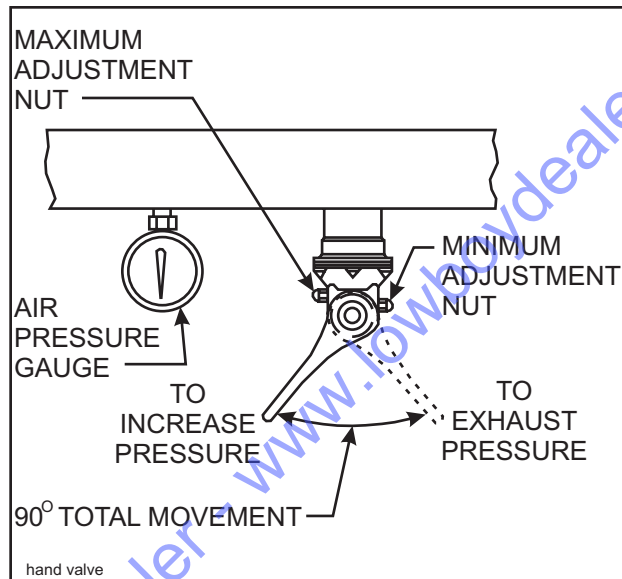

Figure 3-5 Hand Valve
The **HAND VALVE** (See **Figure 3-5**) is located on the front side of rear tail channel beside the **AIR HEIGHT CONTROL VALVE**. It has two positions:
The **PRESSURE GAUGE** (See **Figure 3-5**) is located near the **HAND VALVE**. This gauge provides air pressure information for adjusting the air ride system manually.
3-15.1 Minimum air pressure should be at least three (3) psi. Loosen the minimum adjustment nut (See **Figure 3-5**), set the air pressure at three (3) psi and tighten the nut again.
3-15.2 Maximum air pressure should be no more than 85 psi. Loosen the maximum adjusting nut (See **Figure 3-5**), set the air pressure at 85 psi and tighten the nut again.